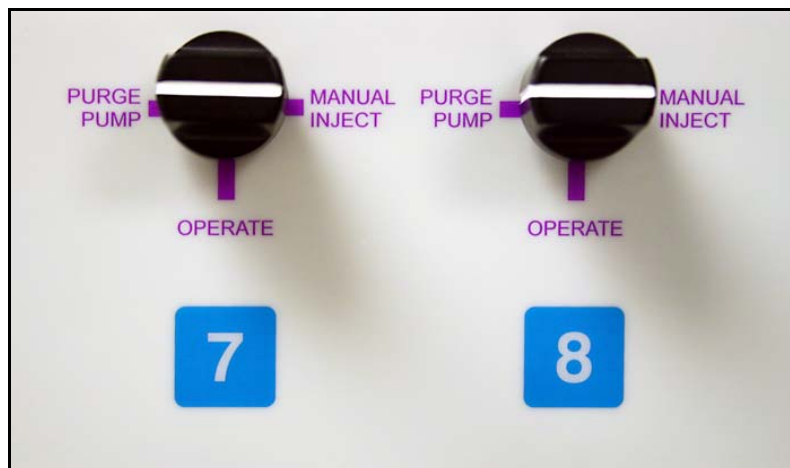

Figure 2-19 Mode control knob
7. For each channel, set the mode control knobs to Purge (Figure 2-19).